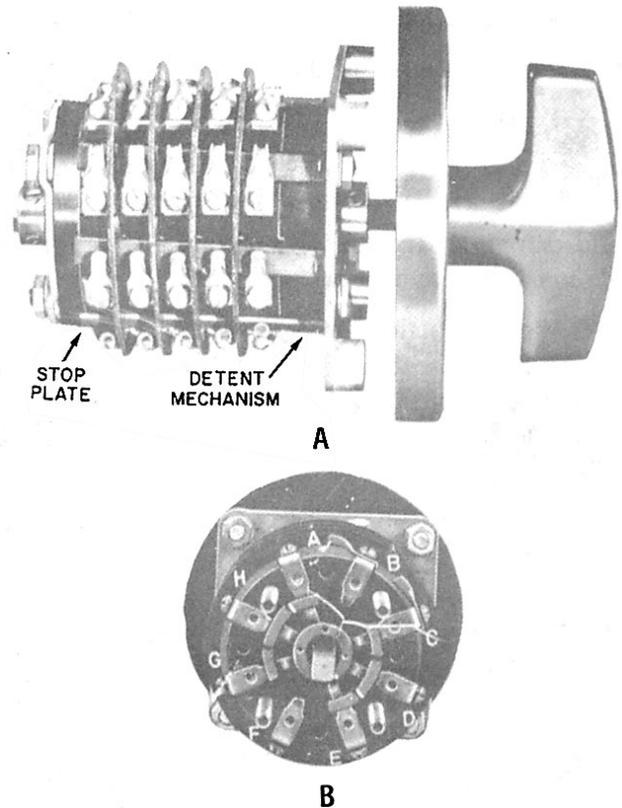

Figure 2-9.—Type JR switch (4JR).
**TYPE JR.**— The type JR switch (fig. 2-9) is installed on recent IC switchboards. This switch is